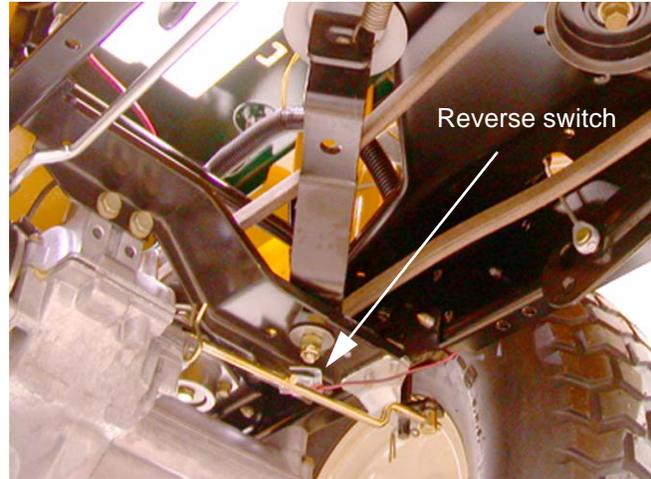

Figure 39.5
- A normally open (NO) set of contacts is in the starter inhibit circuit. When the clutch / brake pedal is depressed, the contacts are closed, power coming from the key switch in START) through the orange wire is passed on to the PTO switch through the orange wire with black trace.
- A normally closed (NC) set of contacts is in the safety shut-down circuit. A circuit is completed from the M terminal on the key switch, and directly from the magneto primary windings through the pair of yellow wires to the clutch / brake switch through to the yellow wire with black trace when the contacts are closed.
39.5. The **Reverse Safety Switch** is a simple metal contact tang. The gear selector touches it when placed in the reverse position, providing a ground path through the gear sector lever itself. See Figure 39.5.